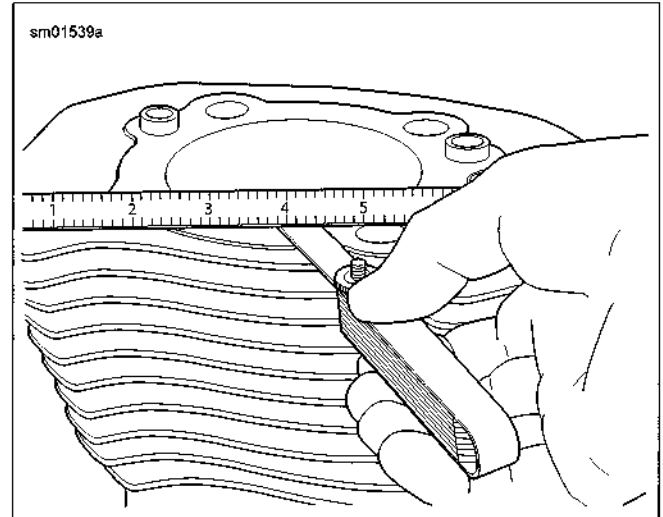

Figure 3-48. Checking Gasket Surfaces
- See Figure 3-48. Check that cylinder top (head) gasket surface is flat within 0.006 in (0.15 mm).